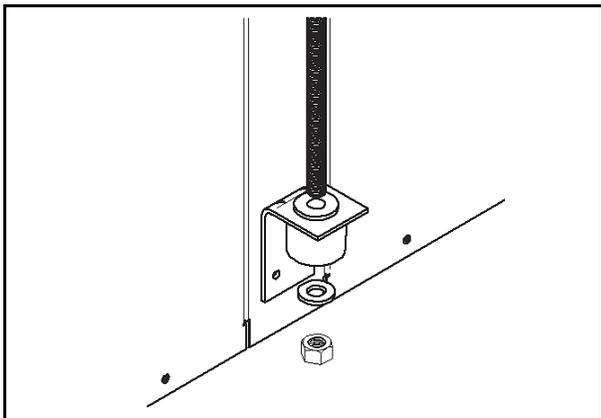

Fig. 10 Threaded Rod
- Install rubber grommet onto the brackets as shown in Fig. 10.
- Hang the unit and assemble the field-provided threaded rod, nuts, and washers on to the brackets as shown in Fig. 10.